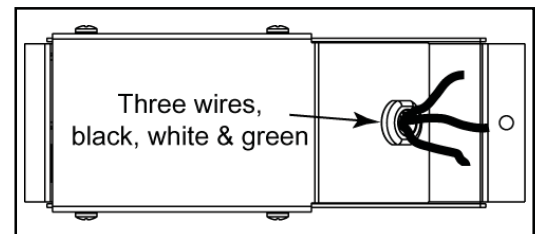

Figure 52 - Junction Box Detail
- a. **Appliance Requirements:** This appliance requires a 110V AC supply to the appliance junction box for operation. A wiring diagram is shown in Figure 52.